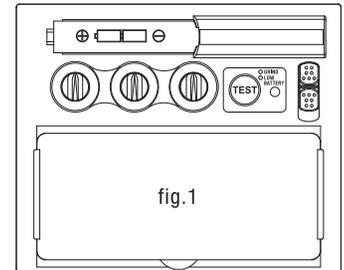
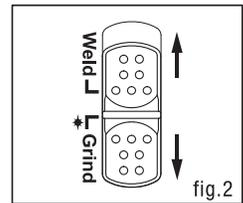

fig.1
fig.2
Install batteries into helmet properly, according to positive and negative terminal marking on battery jar (See fig.1).
Press and hold "TEST" to preview shade selection before welding (See fig.1). When released then viewing window will automatically return to the light state (3.5 Shade). Press "TEST" if viewing window does not turn to dark state, replace batteries and try again.
This ADF cartridge is powered by solar cell and 2 AAA Alkaline batteries. When the indicator located on the lens starts to come to red (See fig.1), it is a warning for the battery to be replaced.
**Weld mode** - Used for most welding applications. In this mode the shade function is turned on when it optically senses a welding arc. Select shade level, delay time and sensitivity as required (See fig.2).
**Grind Mode** - Used for metal grinding applications. In this mode, the shade function is turned off. The shade is fixed shade DIN 3.5 that allowing a clear view to grind a weld with the helmet providing face protection (See fig.2). Under this situation, the indicator would turn green and flash every 3 seconds(see fig.1).